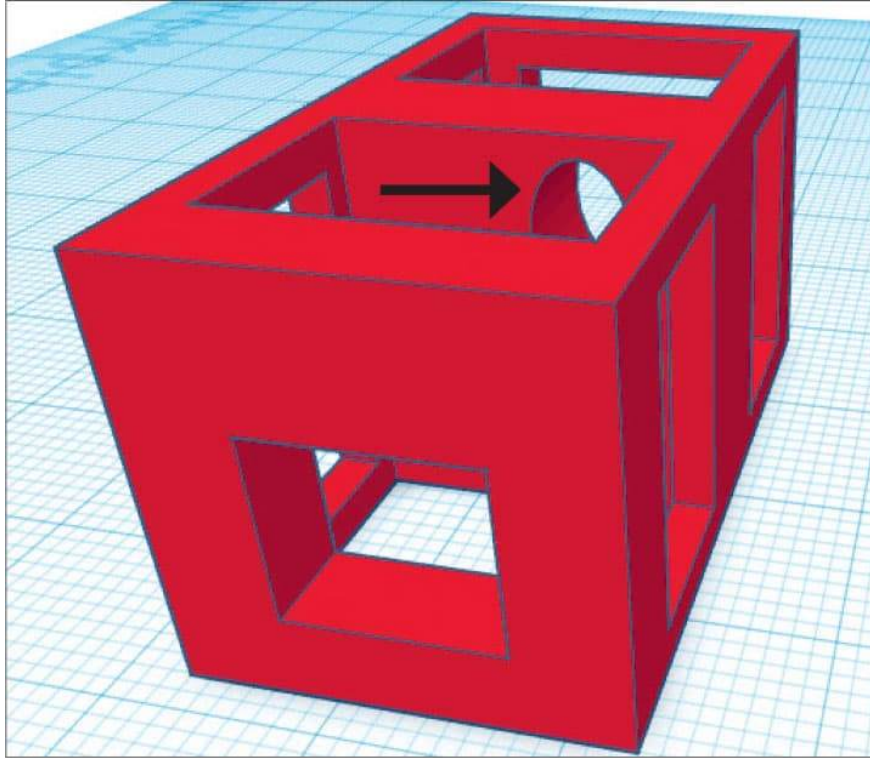

FIG. 3: Add an offset hole in the central beam.
2. Create an offset hole in the central beam. Again, this hole can be located in any corner and can be of any shape. The objective is to make the water that enters the frame change direction and slow down (fig. 3).